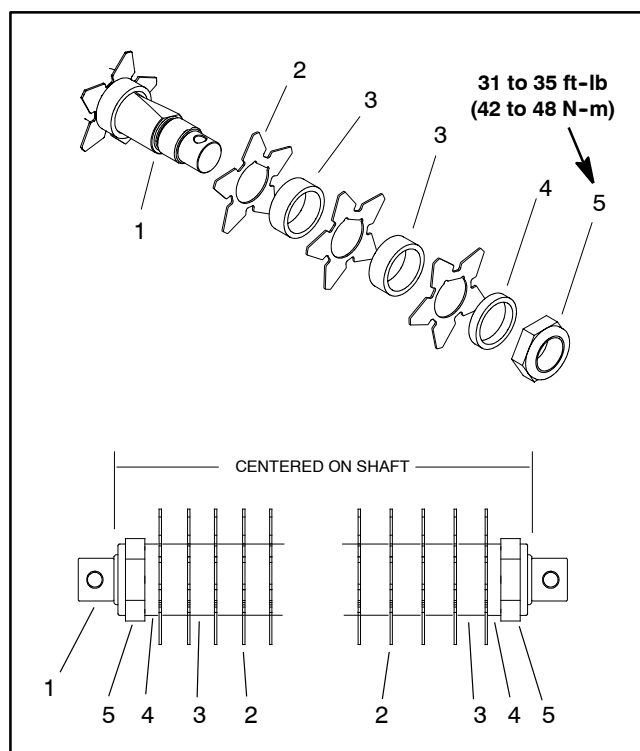

Figure 13
Disassembly (Fig. 13)
4. Remove lock nut from either end of the shaft (Fig. 13).
Assembly (Fig. 13)